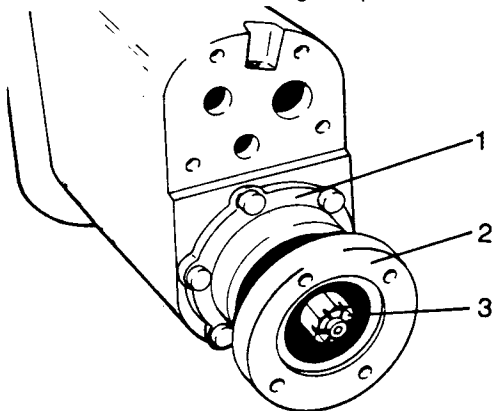

Fig H1.110
- (5) Refer to Fig H1.110. Fit the oil seal retainer (1) firstly applying to the oil seal lip a film of SAE 90 EP oil, if the oil seal is cork, and a film of grease, Molykote Baz, if it is of the leather type. The latter type of seal should be submerged in SAE 90 EP oil for four hours, before fitting.
- (6) Fit the flange (2).
- (7) Install the flange fixing elements (3) and tighten to a torque of 110 to 120 N.m. Afterwards fit the split pin in place.